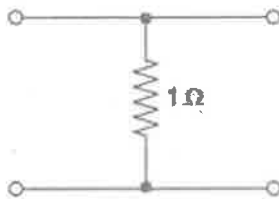

Fig. 5
Q. No.5 . Determine the Z , h - and Y -parameters of the network shown in Fig.5